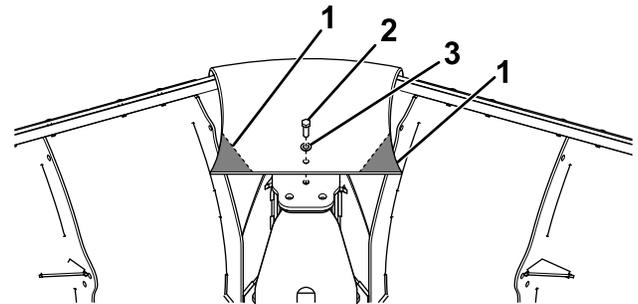

Figure 9
14. Drill a 9.5 mm (3/8 inch) hole through the belting, and secure it to the top of the plow center section using a bolt (1/2 inch) and washer (1/2 inch) as shown in Figure 9.
15. Trim the corners of the center belting to prevent it from interfering with the plow movement (Figure 9).